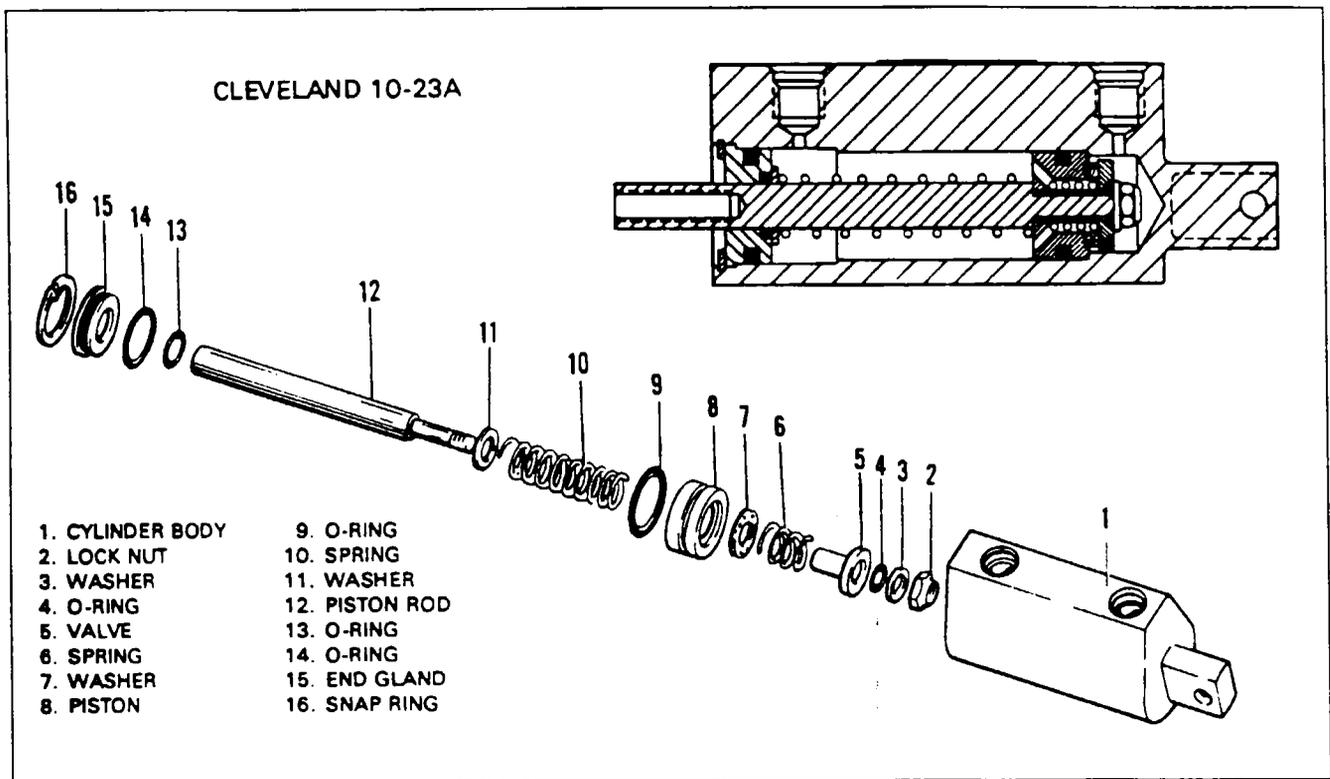

Figure 32-22. Brake Master Cylinder Assembly
**DISASSEMBLY OF BRAKE MASTER CYLINDER. (Refer to Figure 32-22.)**
**ASSEMBLY OF BRAKE MASTER CYLINDER.** (Refer to Figure 32-22.)